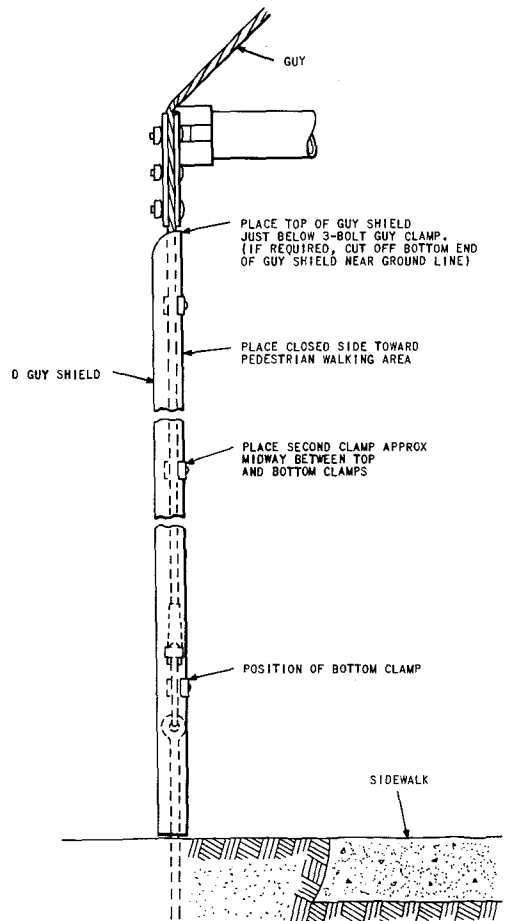

Fig. 4—Guy Shield Installation
4.02 Place the guy shield as shown in Fig. 4.